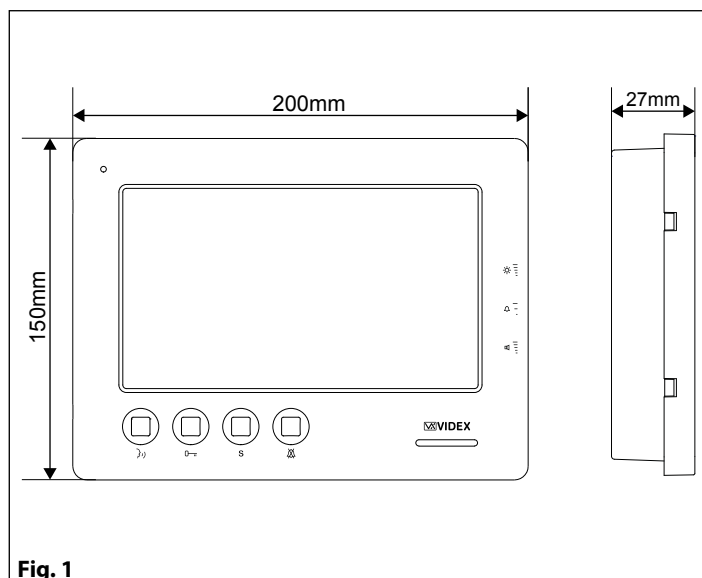
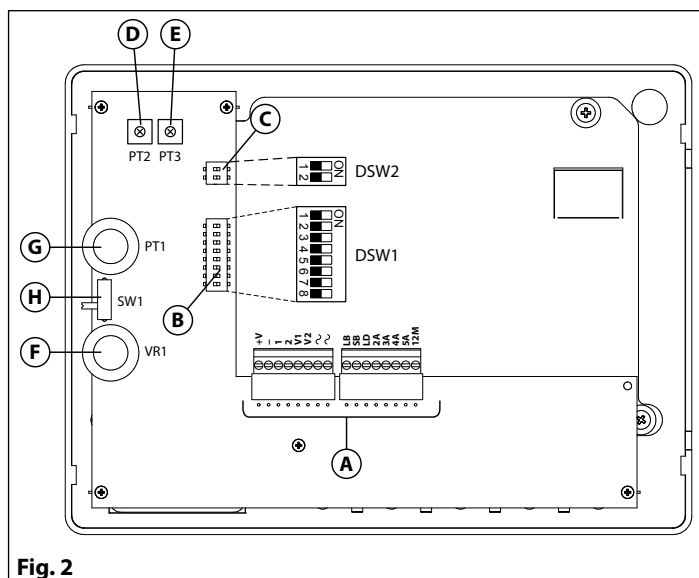

Fig. 1
Fig. 2
1. Place the surface box against the wall (165-170cm between the top of the box and the floor level as shown in **Fig. 1**) and mark the fixing holes for the wall plugs and the hole for the cables **(E)** (**fig. 2**). Observe the orientation of the box with the hinge on the left;
2. As shown on **Fig. 2**, drill the fixing holes **(A)**, insert the wall plugs **(B)** and feed the cables **(E)** through the surface box opening **(D)**, fix surface box **(C)** to the wall using the screws **(F)**;
1. Protect the module support frame fixing holes from dust then embed the back box into the wall (165-170cm between the top of the box and the floor level as shown on the **Fig. 1**) feeding the cables **(E)** (**Fig. 2**) through a previously opened hole in the box. Observe the direction of the box ensuring the hinge is on the left and take care that the box profile is in line with the finished wall profile;